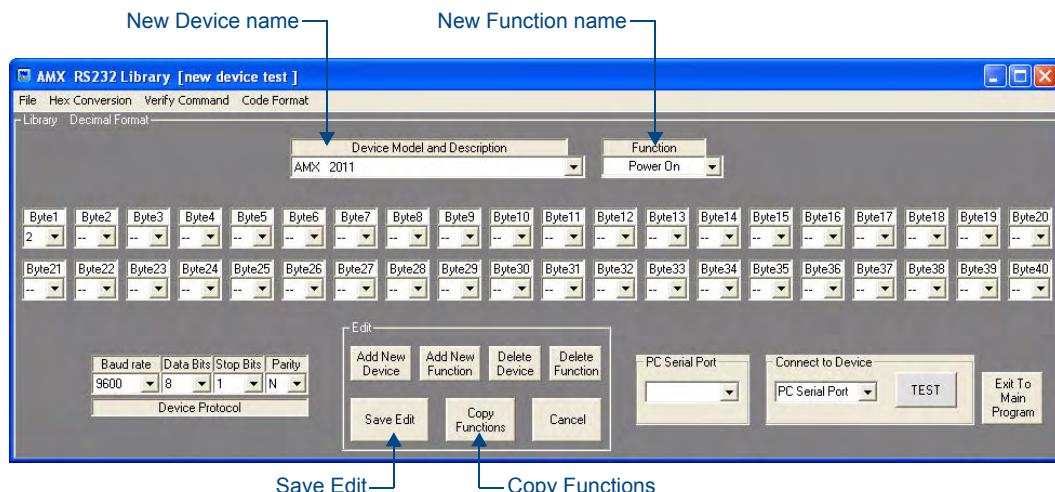

FIG. 36 AMX RS232 Library dialog (for a new device)
- Enter the *Device Make* and *Description*, then click **Save Device**. This opens a new *AMX RS232 Libraries* dialog for the new device (FIG. 36).
1. Select the device to copy from then click on **Copy Functions** (in the *Edit* options - see FIG. 36). This invokes the *Add New Device* window (FIG. 37).